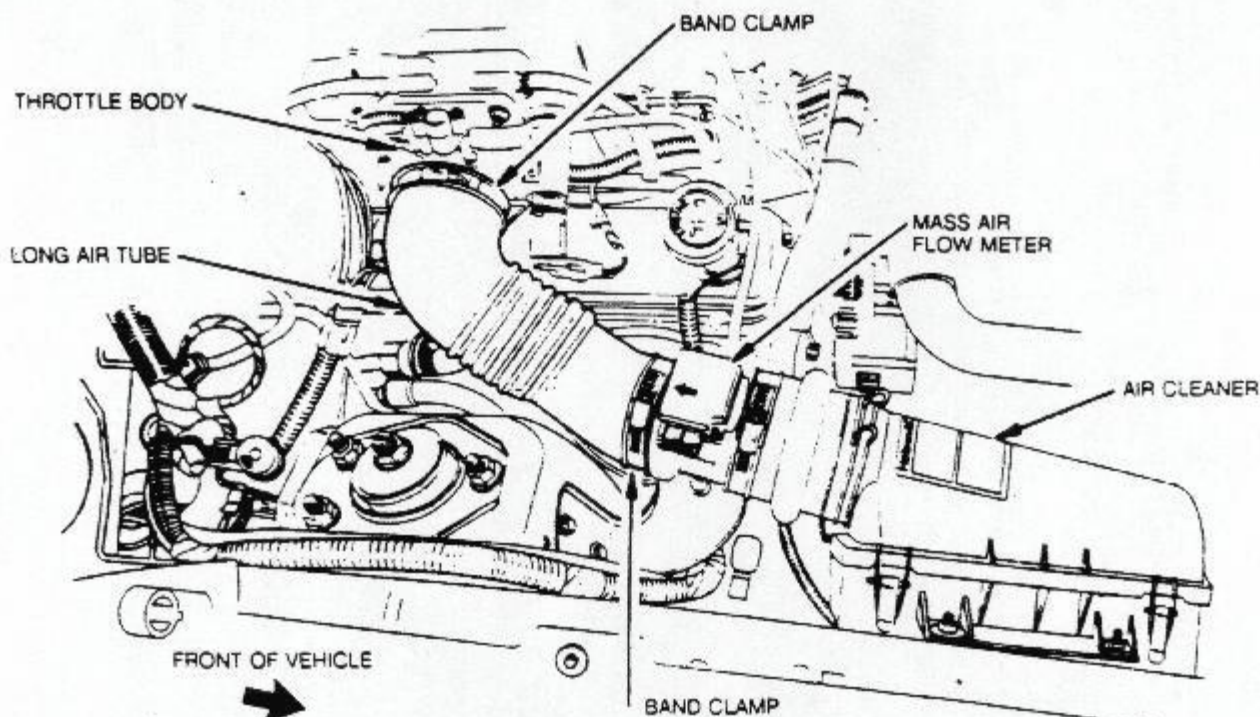

FIGURE 7
STEP 10 Install the long air tube between the MAF and the throttle body using the band clamps provided as shown in figure 7.